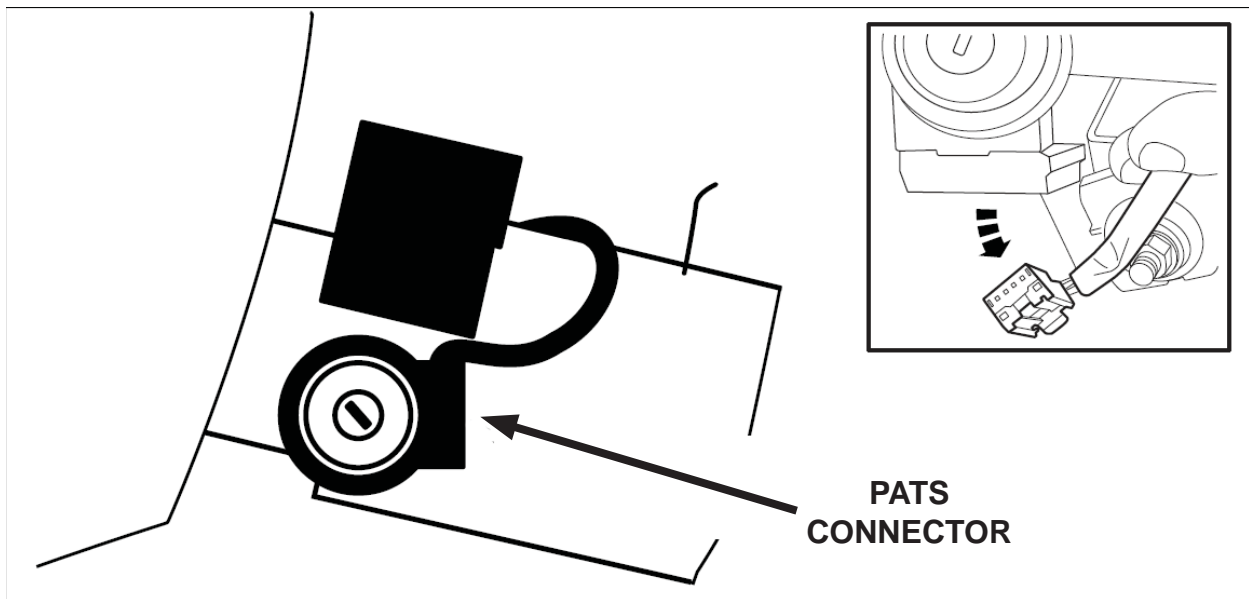

FIGURE 7
11. If equipped, disconnect the Passive Anti-Theft System (PATS) transceiver electrical connector. Remove the harness pin-type retainer and position the harness aside. See Figure 7.